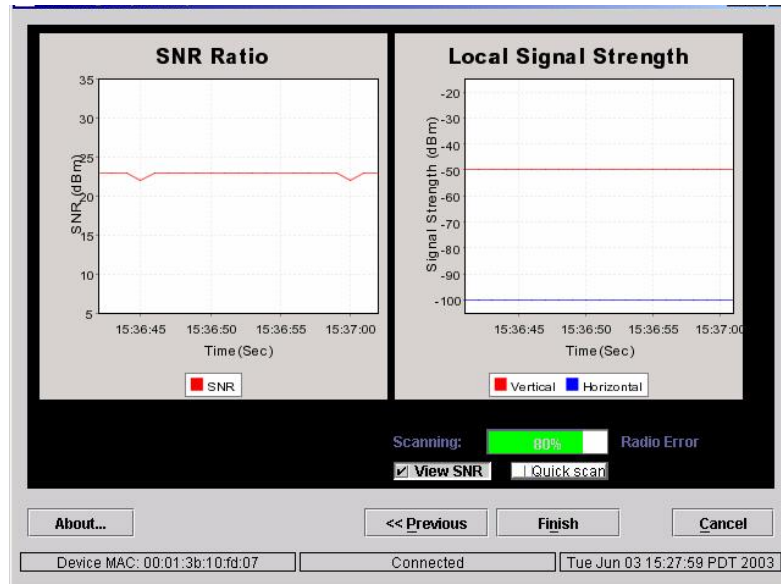

Figure 5-11 Alignment Window with SNR Graph
- b. Once the Local Signal Strength value is maximized, click on the View SNR button to display the full window as shown in Figure 5-11. SNR (signal-to-noise ratio) values in the red area are not good; values in the yellow area are acceptable; values in the green area are best. (However, the unit can operate reliably to an SNR level of 12 dB in QPSK.)